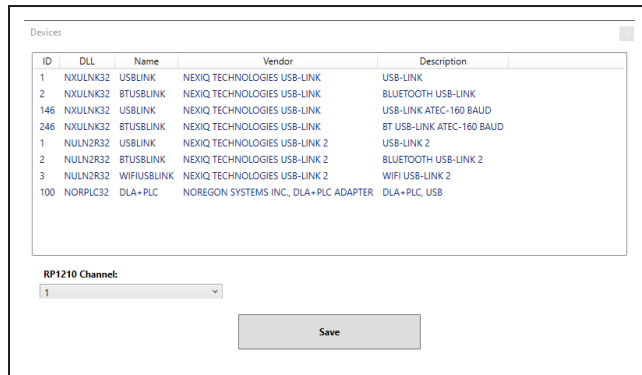

Figure 1 – Interface and Channel Selection
2. Select the *EC80 Update Tool-ID 13551* shortcut. Select the installed diagnostic interface and channel. See Figure 1.